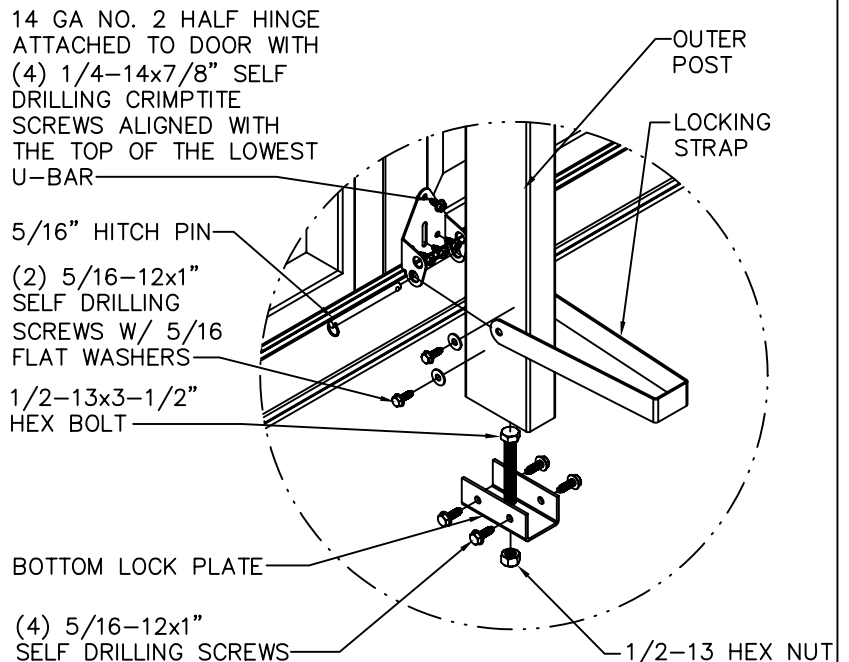

FIGURE 2
PLACE THE HALF HINGE AT THE BOTTOM OF THE BOTTOM SECTION IN LINE WITH THE INTERMEDIATE HINGES AND JUST ABOVE THE LOWEST U-BAR AND ATTACH WITH (4) 1/4-20x11/16" SELF DRILLING SCREWS AS SHOWN IN FIGURE 2. ASSEMBLE THE BOTTOM LOCK PLATE BY SLIDING (1) 1/2-13x3-1/2" BOLT DOWN THROUGH THE TOP THE BRACKET AND SECURING WITH THE HEX NUT FROM BELOW. ATTACH THE BOTTOM LOCK PLATE TO THE BOTTOM OF THE OUTER POST WITH (4) 5/16-12x1" SELF DRILLING SCREWS AS SHOWN IN FIGURE 2.